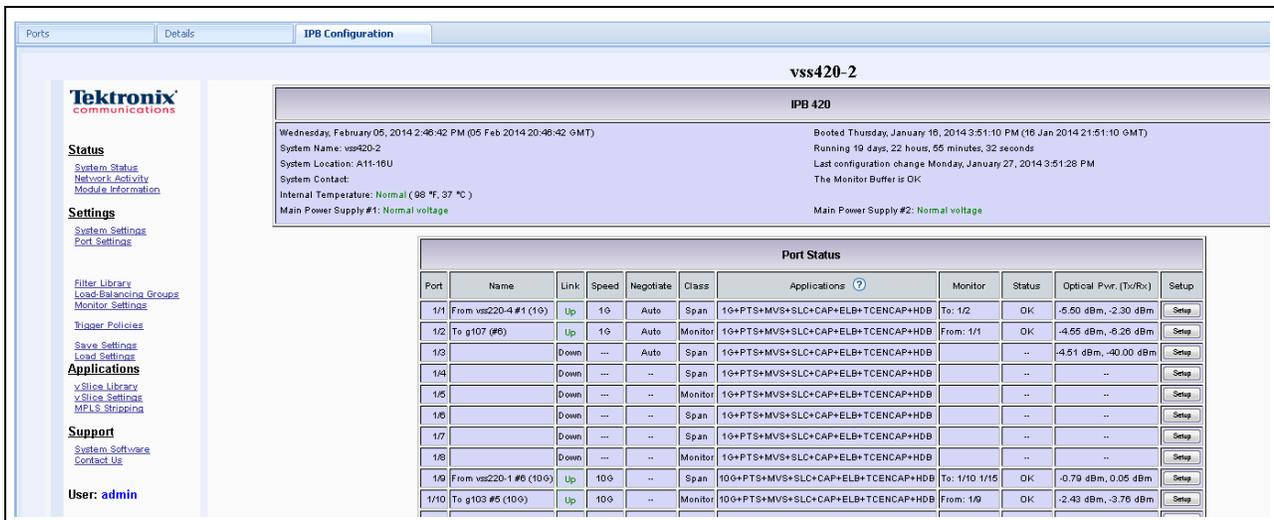

Figure 3.11 - IrisView IPB Configuration Tab
- Select the IPB Configuration tab to access the IPB System Management Web GUI (**Figure 3.11**).
The main System Status page appears (Figure 3.11). This page consists of two panes: